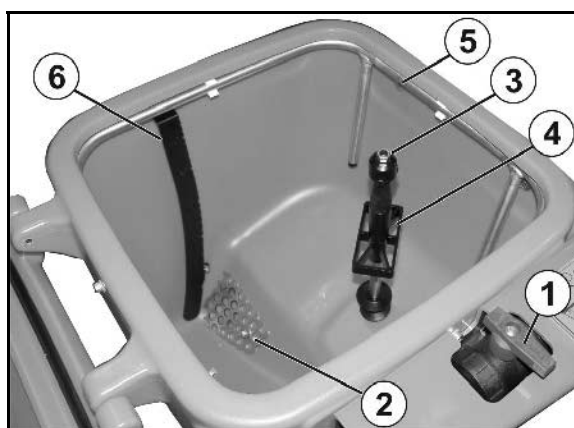

Fig. 45
Water escapes from the canister flushing nozzle (Fig. 45/3) if
- the pressure plate (Fig. 45/4) is pressed down by the canister.